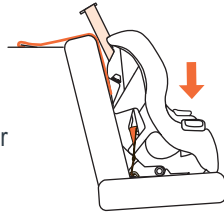

Fig. 35b
5. Put weight in seat with hand to compress the vehicle seat cushion then insert the lower anchor connector on to the vehicle connector anchor point. Tighten the lower anchor connector by pulling up on the webbing end. Pull up on the lower anchor connector to ensure the lower anchor is securely fastened (Fig. 35b).